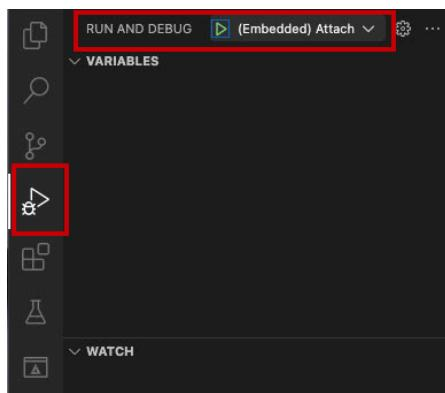

Figure 38. Start debugger
5. Start the debugger by clicking on the play button  (make sure that the "(Embedded) Attach" option is selected). You can find this button near the top of the window (see Figure 38).